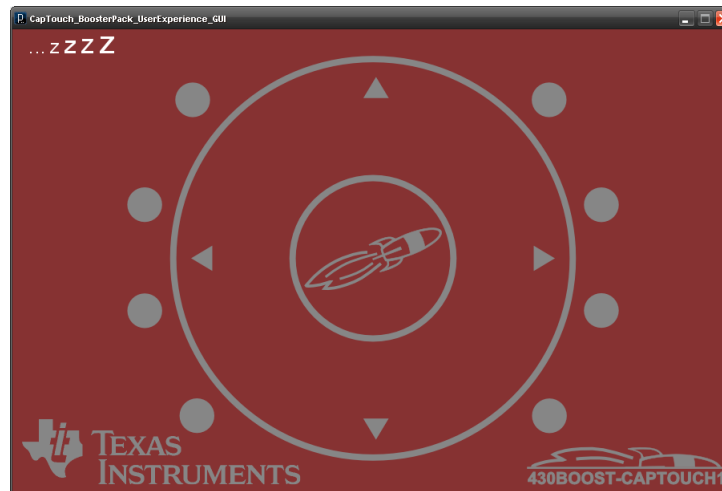

Figure 3. PC GUI in Sleep Mode
2. At start-up or after long period of inactivity, the device enters sleep mode and the GUI is disabled (grayed out) to indicate sleep mode (see Figure 3). Upon proximity sensor detection (for example, wave your hand approximately 3 to 5 cm above the BoosterPack) the device returns to active mode and enables the GUI.